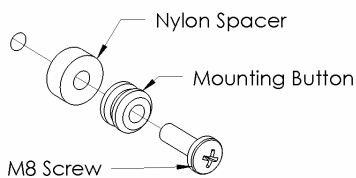
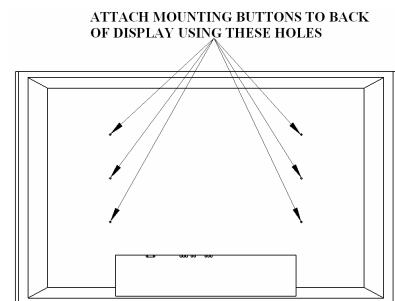

Figure 3
Figure 4
2. Attach mounting buttons to display using the M8 screws and nylon spacer provided. (see Figure 3 & Figure 4).